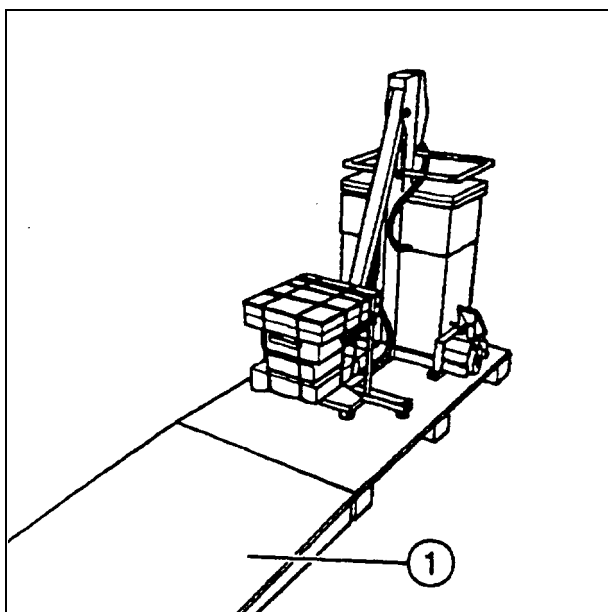

Fig. 1
- Place the side wall with the integrated ramp (1/ Fig. 1) in front of the pallet and hook in the fastening straps.